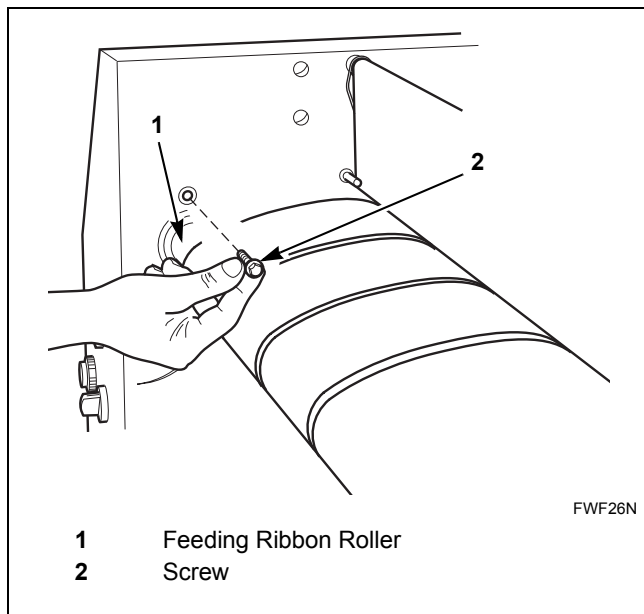

Figure 31
6. Unlock the feeding ribbon roller at the left side interior panel by removing two screws. Keep roller in place and check the direction in which the bearing is mounted. Refer to *Figure 31*.